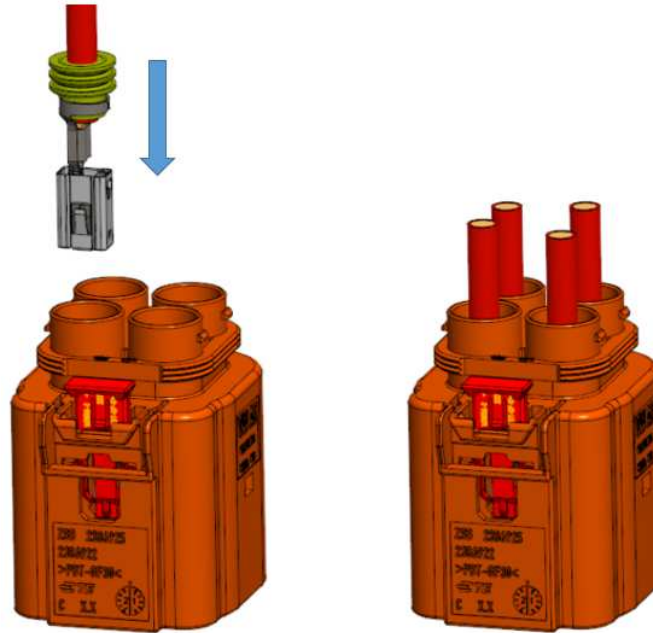

Figure 2: Contact insertion into receptacle housing
Step 1: Insert crimped contact into receptacle housing as shown in fig 2. Locking lance sound ensures contact is fully assembled into chamber.